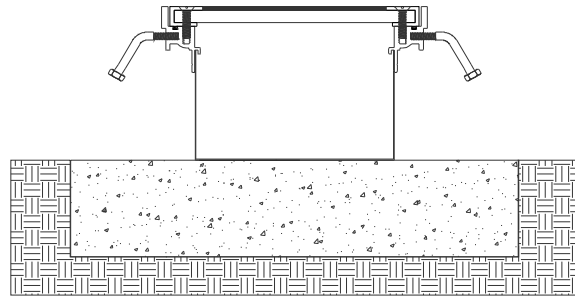

Figure 3
STEP 4. Assemble the trench cover on the support pad, splicing the liner and frame sections of the assembly in accordance with the procedures provided in the appropriate sections of these installation instructions (see Figure 3). Refer to the section of these instructions entitled "SPLICING TRENCH AND ACCESS COVER FRAMES" and the section of these instructions entitled "SPLICING TRENCH LINERS" for procedures for assembling the frames and liners. Place the trench cover into the assembled frame.